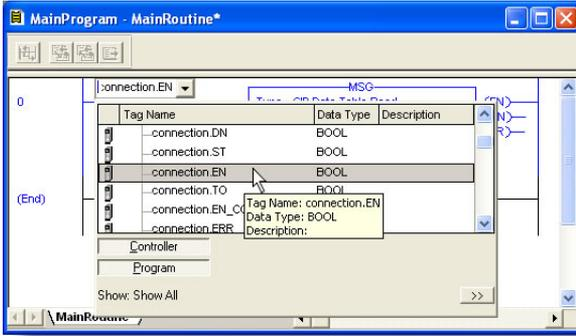

Figure 105: Configure XIO Element
- a) Double-click on the XIO element located to the left of the MSG block. In the drop-down box, double-click on the "connection.EN" field. Refer to Figure 105. This configuration causes the MSG instruction to automatically retrigger itself when it completes. While this is acceptable for the purposes of this example, it can produce high network utilization. In actual practice, it may be desirable to incorporate additional logic elements to allow triggering the MSG instruction at a specific rate or under specific conditions.